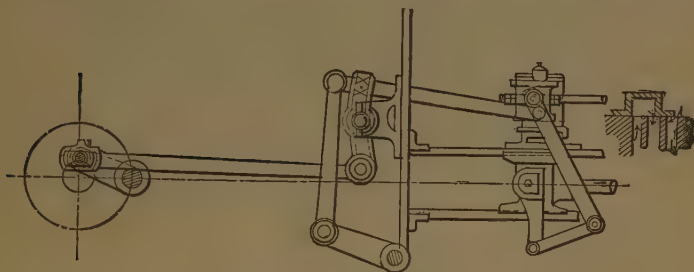

Fig. 98. Walschaert Gear.
A. One in which there are two distinct motions, one from a single eccentric, and the other from the crosshead; the eccentric usually being like a return-crank from the main crank-pin as shown in figure 98, with its centre at right angles to the crank-arm.